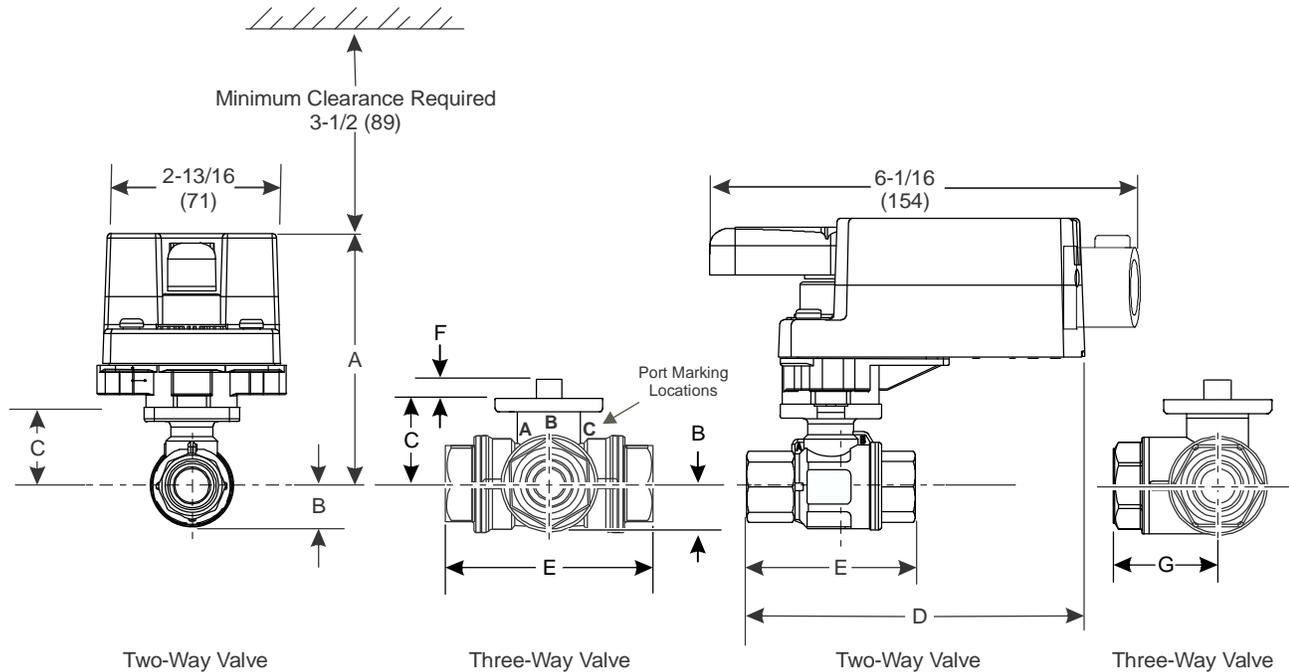

Figure 2: Non-Spring Return VA9104 Actuated VG1241, VG1245, VG1841, and VG1845 Series Ball Valve with Optional M9000-551 Linkage Dimensions, in. (mm.)
See Figure 2 for dimensions of the Non-Spring Return VA9104 Actuated VG1241, VG1245, VG1841, and VG1845 Series Ball Valve with M9000-551 Linkage. See Table 1 for specific model linkage dimensions.
1. Port A must always be connected to the coil (Figure 2).